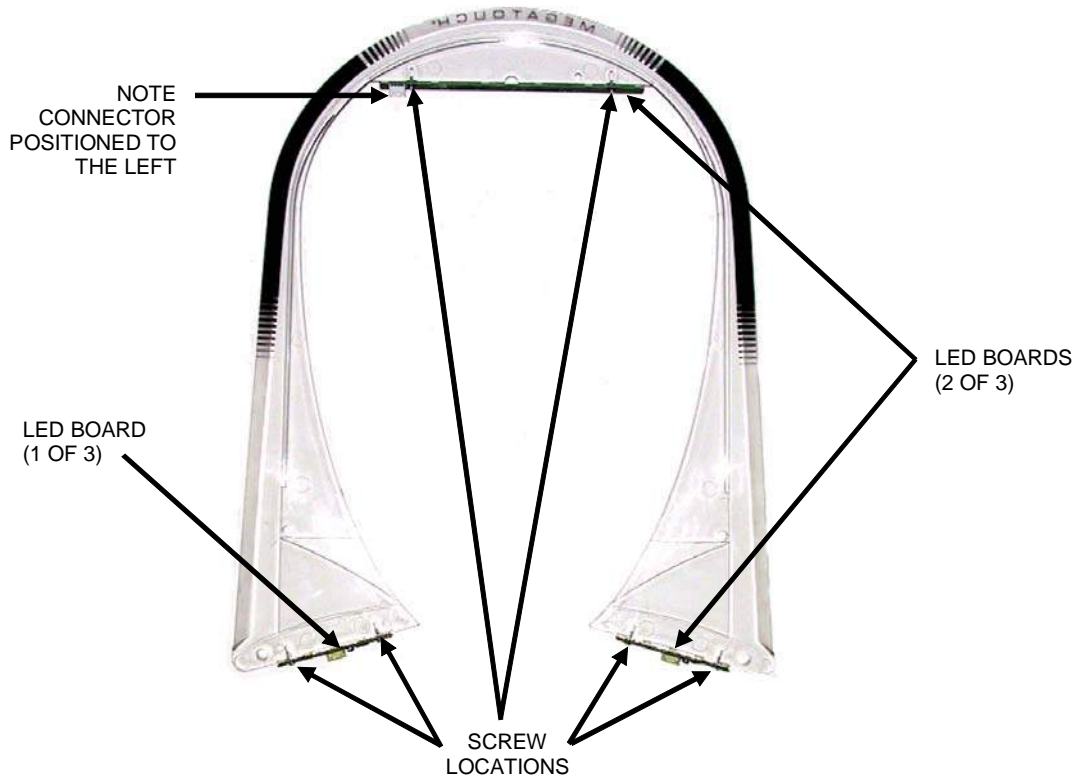

FIGURE 17 - REAR VIEW OF REMOVED HALO
20. Before you begin removing the halo, look at it and note its positioning in the game. Then, looking at the rear of the Aurora, remove the 4-pin connector that's connected to the green LED board at the top of the halo (see Figure 17).
21. Turn the system around and gently pull the bottom of the halo away from the game to gain access to the two 5-pin connectors that are connected to the two green LED boards at the bottom of the halo (see Figure 17). Disconnect each connector. The halo can now be easily removed from the system.
22. Remove the two screws securing each of the three LED boards to the halo (see Figure 17).
23. Reattach the three LED boards to the new halo in the same positions (see Figure 17). The connector of the top LED should be on the left-hand side when looking at the rear of the halo. The bottom two LEDs can be attached to either the right or left side. The pins on these connectors can face either the front or the rear of the system, just so long as you can reconnect the harnesses to them when the halo is seated on the game.